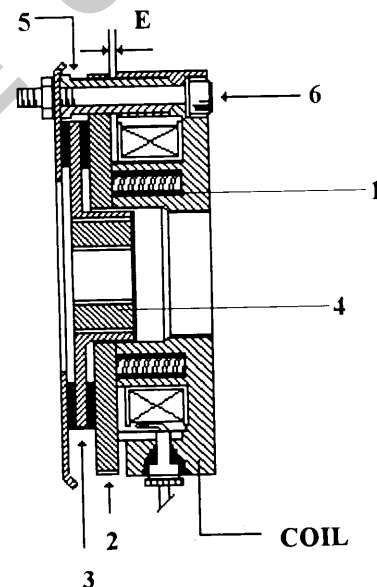

Figure 4-1
When the hoist motor is energized, the magnet brake coils are also energized, pulling the armature plate (2, Figure 4-1) against the coil, thereby releasing the pressure on the friction discs (3). This permits the discs (3) to turn freely with motor rotation. When the motor is de-energized, the brake coils are simultaneously de-energized, releasing the armature plate (2) which applies pressure to the friction discs (3) and the motor is brought to a quick stop. The kinetic energy of the motor is dissipated as heat on the friction surfaces.
If the faces of the armature plates (2) are greasy, clean them with a degreasing agent to prevent slipping. If the armature faces are scored, they should be reversed. Replace the friction disc (3) if necessary (Figure 4-1).